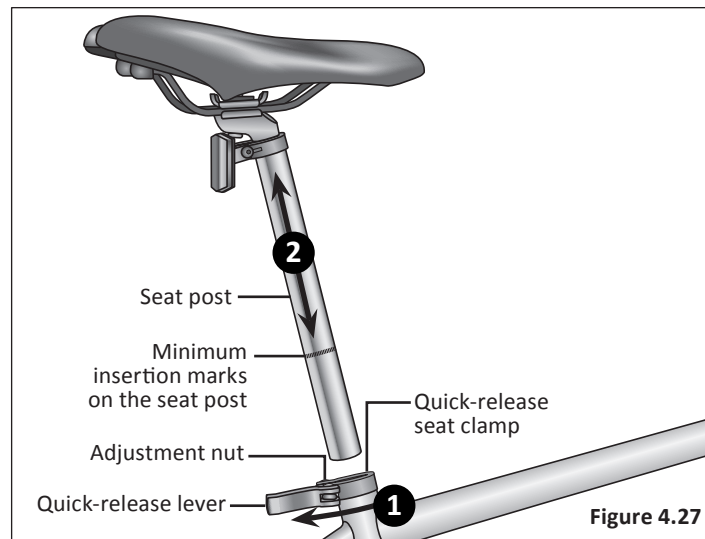

Figure 4.27
- 1 Unlock the quick-release lever. **Figure 4.27**